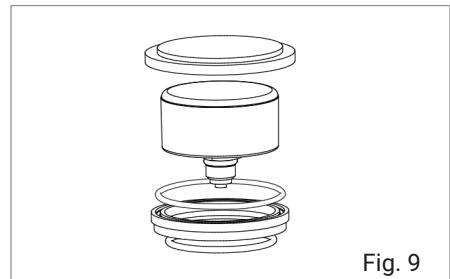

Fig. 9
- 6 Now install the new manometer (17) by placing the larger O-ring (21) in the groove of the new housing ring (22) at the top, placing the slightly smaller O-ring (23) in the manometer holder from below and sliding both over the new manometer from below (Fig. 9).
- 8 When replacing the protective glass (19), you only need to unscrew (step 4) the manometer holder (18) from the air pump casing (9) and replace the existing protection glass with the new one. When inserting the new protective glass, make sure that the small diameter is at the top (Fig. 9).